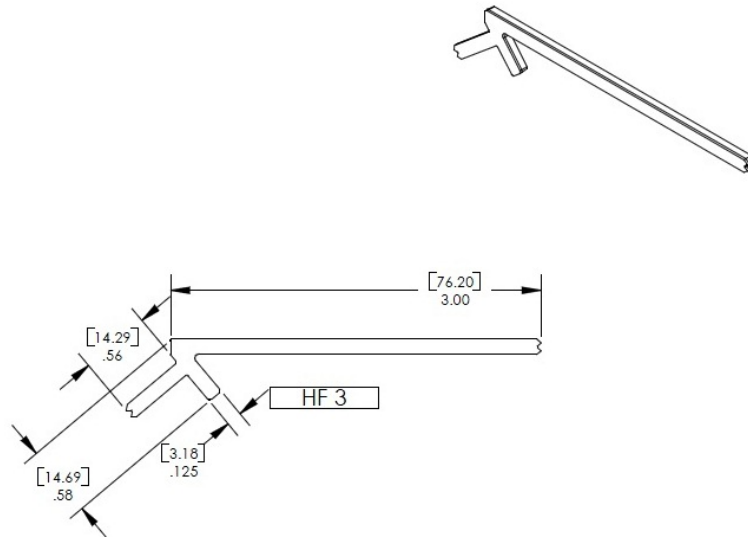

FIGURE 6 – HIDFAST FASTENER
**5.6** Solid deck boards may be fastened using HIDfast HF3 hidden fasteners. One fastener is required at each support. See Figure 6. The outer edge of the first and last deck boards shall be fastened to each joist with one #8-9 TPI, 0.12-inch dia., and 2.5-inch-long stainless-steel trim screw.